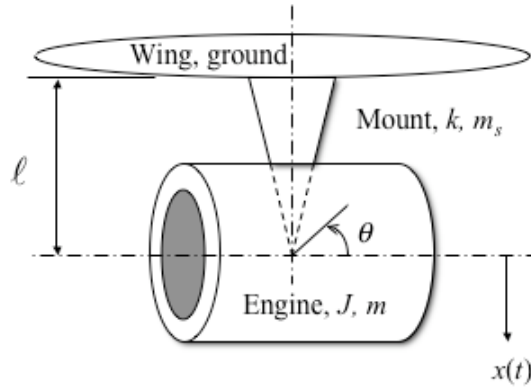

Figure P1.63
- 1.63** Use Lagrange's formulation to calculate the equation of motion and the natural frequency of the system of Figure P1.63. This figure represents a simplified model of a jet engine mounted to a wing through a mechanism which acts as a spring of stiffness k and mass m_s . Assume the engine has inertial J and mass m and that the rotation of the engine is related to the vertical displacement of the engine, $x(t)$ by the "radius" r_0 (i.e. $x = r_0 \theta$).